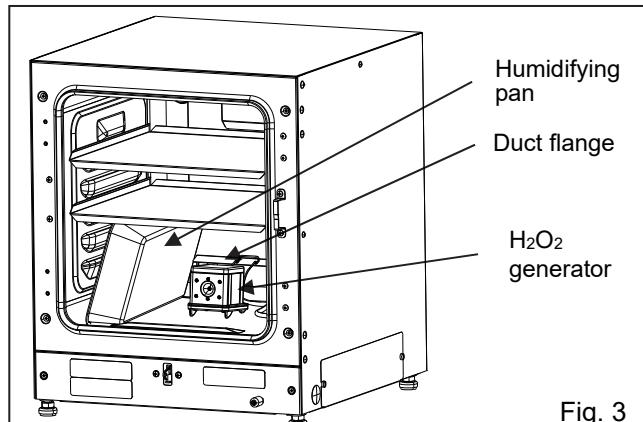

Fig. 3
4. On the Date & Time screen, move the cursor to Time [Fig. 3] using the up/down keys ($\triangle\triangledown$), and press the enter key (ENTER).
<Left side of the display> [Fig. 3]
4. With the cursor in the Keypad Click Set screen on Keypad Click Set [Fig. 3], press the enter key (ENTER).
8. Set the humidifying pan removed in step 1 by leaning it against the flange of the duct. Set the trays on the first and third tray catches from the top (Fig. 3).